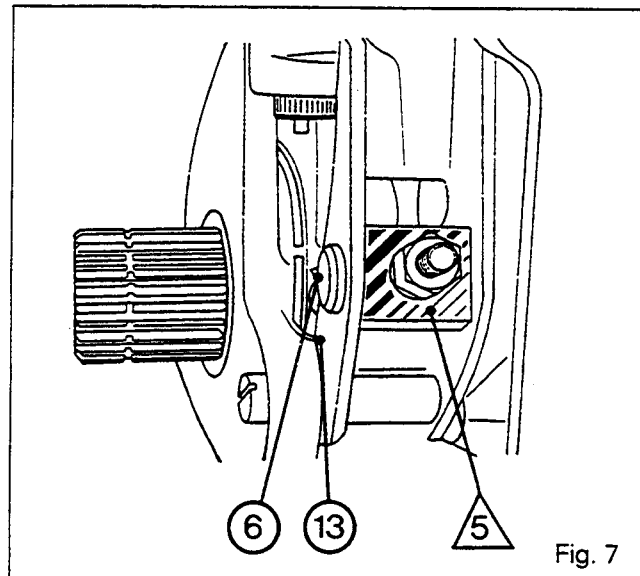

Fig. 7
36. Refit the clevis (7) prepared with the stud (3) and the pin (8). Replace the split pin (9).
37. Fit the lever (13) with its pin (6) on the stud (3) of the clevis.
38. Refit the plate /5/, tighten the nut (4).
Note: The plate /5/ is rectangular. It must be positioned horizontally, lengthwise, on the pin (6) in the lever (13) to be correct (Fig. 7).
39. Replace the discs (30), placing the mechanism (31) between them.